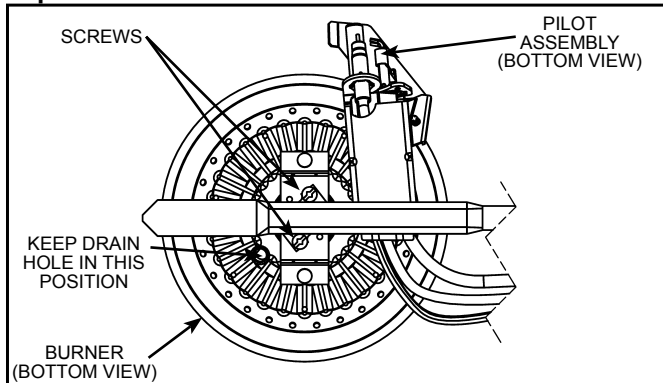

Figure 35
1. Take off the burner by removing the two (2) screws located underneath the burner.
2. Check the burner to see if it is dirty or clogged. The burner may be cleaned with soap and hot water (see Figure 35).
3. When replacing the burner, ensure the drain hole is in the position shown in Figure 35.
2. Remove the burner to access the pilot/thermopile assembly. Remove and keep the screws securing the burner to the manifold (see Figure 35).